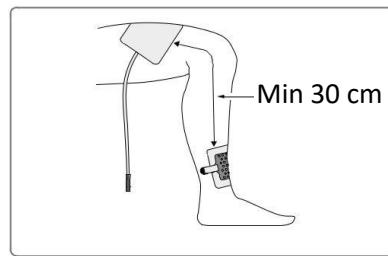

Figure 16. Apply WoundEL® wound dressing and disperser electrode at a distance of 30 cm
1. Apply the WoundEL® dressing and disperser electrode according to the Instructions for Use, see figure 16.